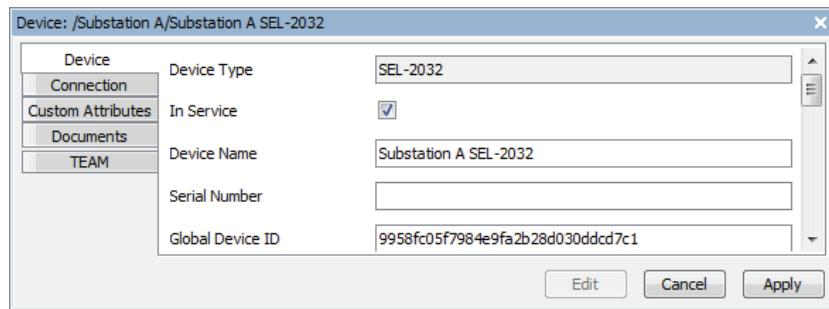

Figure 34 Communications Processor Device Tab
- Step 2. Select the **Edit** button to modify device parameters. Select the **In Service** check box displayed in *Figure 34*.